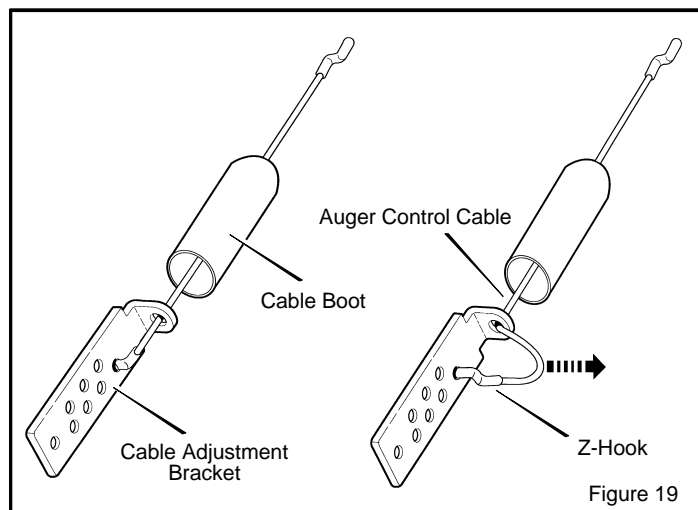

Figure 19
2. Slide the **cable boot** off the **cable adjustment bracket** (Figure 19).